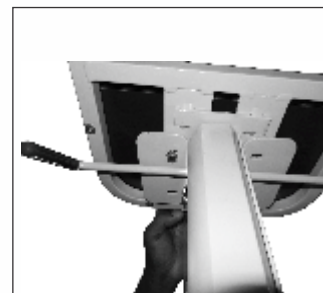

Fig 6
7. Turn the assembly of stem with base frame upside down and fix the top with bracket using screw pan head 3/16" (Fig 6).